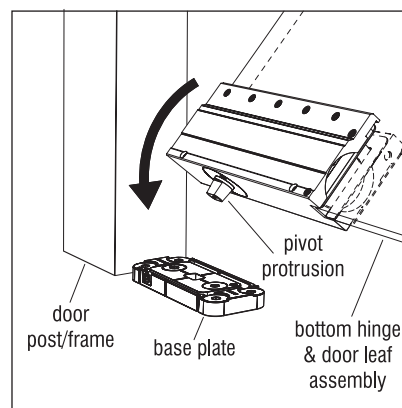
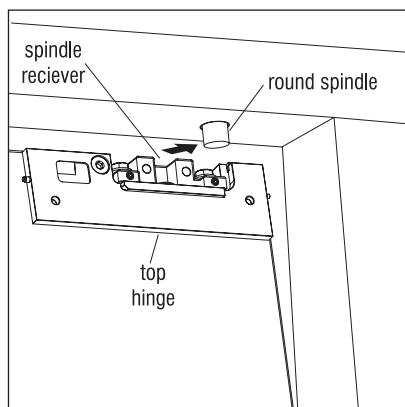

Figure 15
Figure 16
7. Before installing door leaf assembly into frame make sure bottom hinge and top hinge assembly are installed. Once both hinges are installed, get the door leaf assembly in a closed position. Then, lift door and tilt so the bottom hinge is in position and the bottom hinge pivot protrusion engages into the base plate (Figure 15). Stand door up and fit towards frame so that the round spindle engages into the spindle receiver of top hinge (Figure 16).